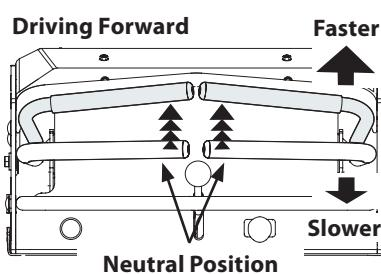

Figure 10
- Ensure the RH and LH drive control levers are in the neutral position and the parking brake is disengaged. See Figure 10.
1. Slowly and evenly move both drive control levers forward. The mower will start to move forward. See Figure 10.